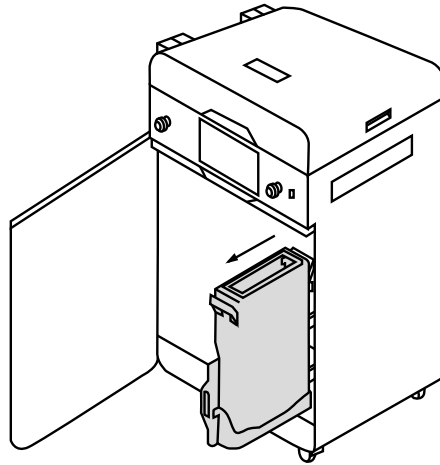

Fig. 4.1 Sliding out the overflow container.
6. Press **UNLOCK OVERFLOW** and slide out the overflow container (Fig 4.1).